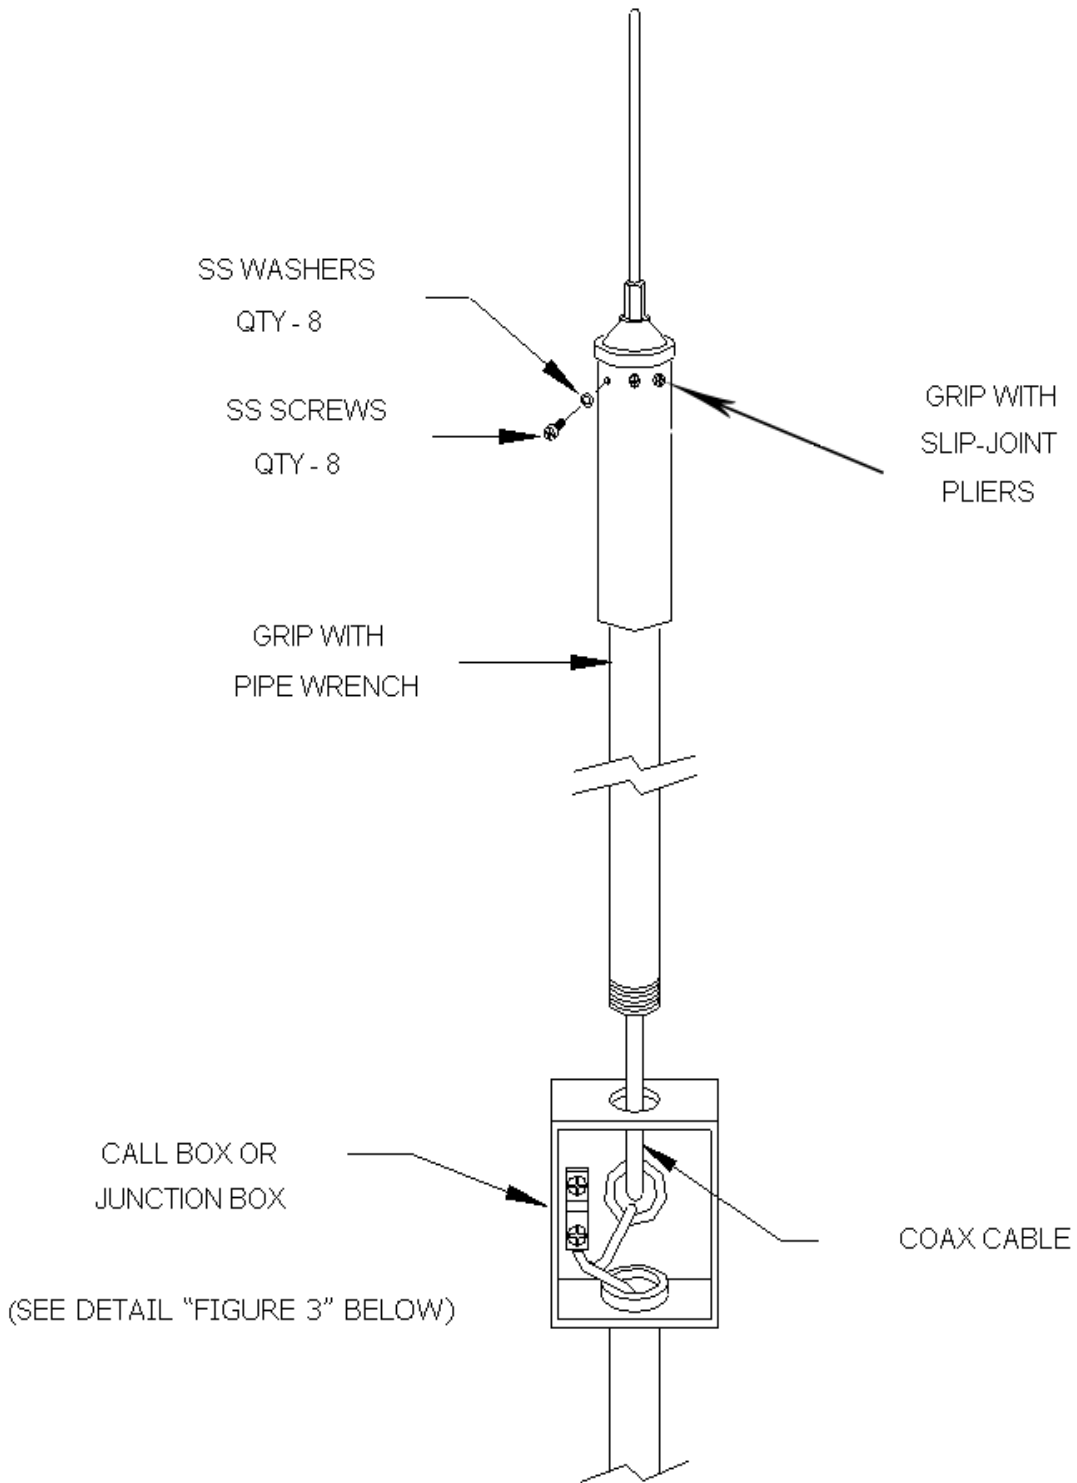

Figure 2
1. Slide the **Antenna Skirt** up to the **Antenna Whip Assembly** and align the mounting holes as shown on Figure 2.